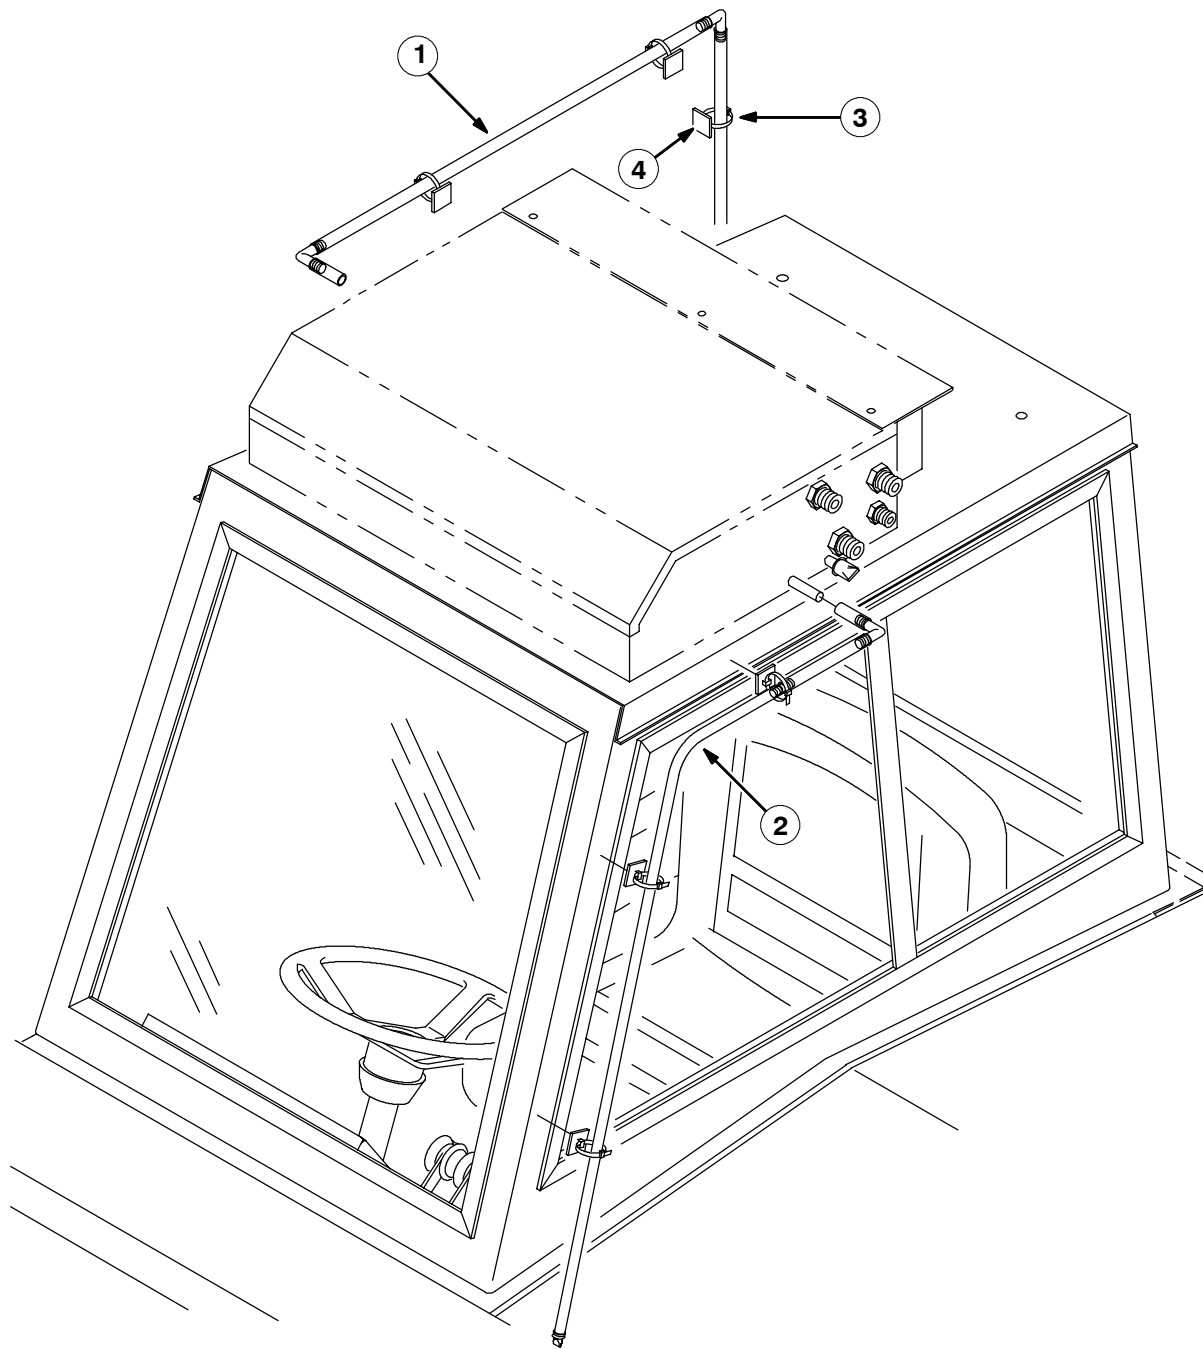

FIG. 1 - DRAIN HOSE KIT INSTALLATION
(Refer to FIG. 1)
3. Connect the open end of the longer drain hose to the right hand side of the air conditioning unit, in place of the duck bill cap. (Refer to FIG. 1)
4. Connect the open end of the shorter drain hose to the left hand side of the air conditioning unit, in place of the duck bill cap. (Refer to FIG. 1)
5. Using a pen or pencil, mark the approximate mounting locations for the cable tie mounts (4) on both sides of the machine. Clean the cable tie mount (4) locations with a 50/50 water/rubbing alcohol mixture and allow to dry thoroughly before installing mounts (4).
6. Secure the longer drain hose (1) horizontally, along the right side of the air conditioning unit and vertically, down the back edge of the machine with cable tie mounts (4) and cable ties (3). (Refer to FIG. 1)
7. Secure the shorter drain hose (2) horizontally, along the side of the air conditioner, and then down the front corner of the cab with cable tie mounts (4) and cable ties (3). (Refer to FIG. 1)